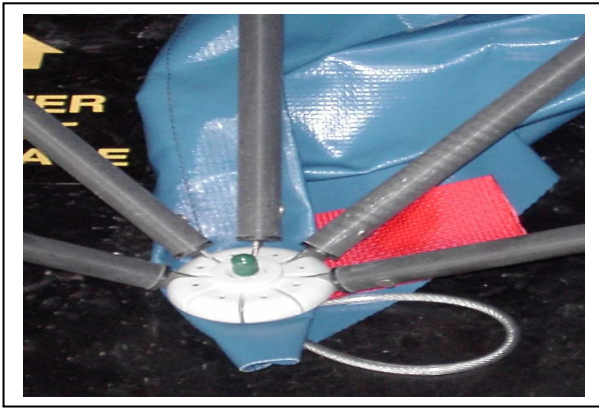

Figure 2-3. Red Flag Hub Location
2. Locate the red flag hubs under the frame as shown in Figure 2-3.